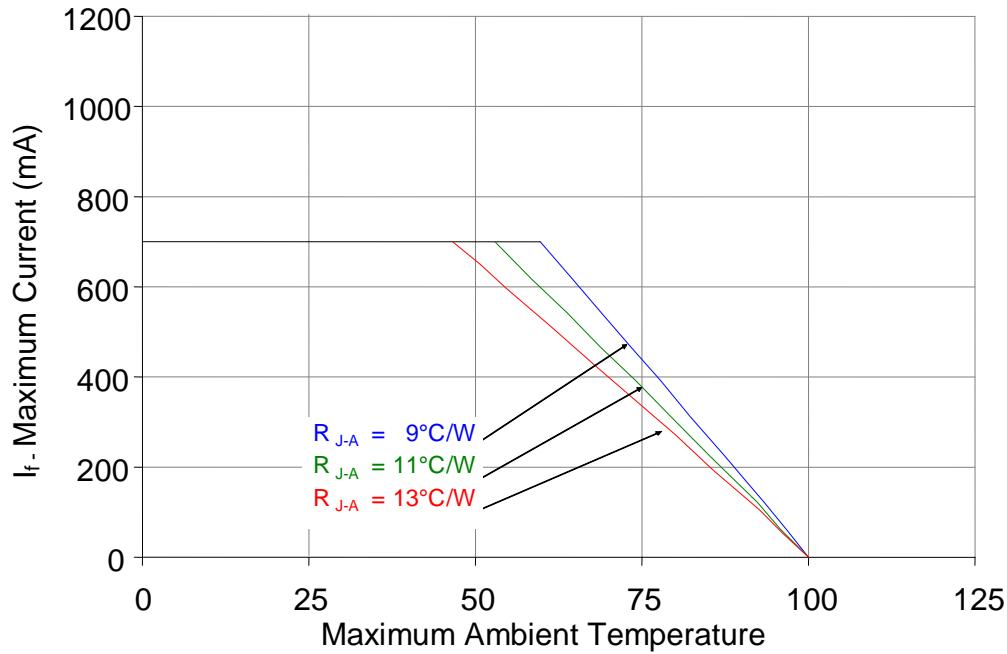

Figure 10: Maximum forward current vs. ambient temperature based on $T_{J(MAX)} = 125^\circ\text{C}$.
1. Maximum DC forward current is determined by the overall thermal resistance and ambient temperature. Follow the curves in Figure 10 for current derating.
Notes for Figure 10: